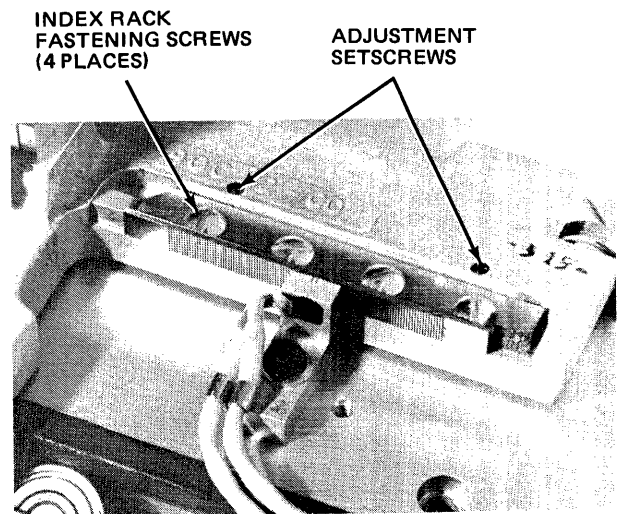

Figure 5-38. Index Rack Adjustment
- c. Back off both adjustment setscrews to allow index rack to fit flush with the carriage (see Figure 5-38).